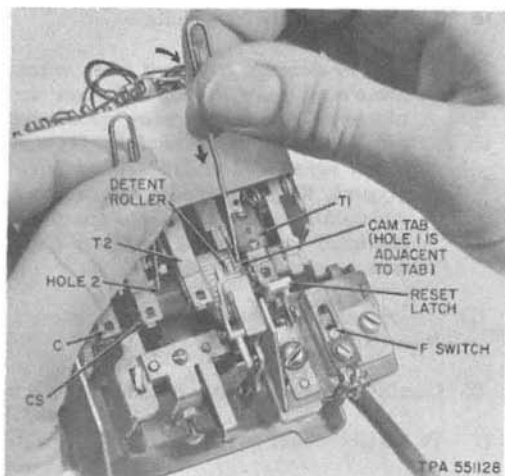

Fig. 12—Increasing Totalizer Rate
Method I—Increasing Rate (Fig. 12)
(2) Further rotate shaft approximately 10 steps until a tab on the T1 cam is accessible as shown in Fig. 12 and 13.
(3) Insert a KS-16750, List 3 releaser or a paper clip into one of the four holes indicated as hole 2 in center of shaft. Hold paper clip firmly so that shaft cannot move.